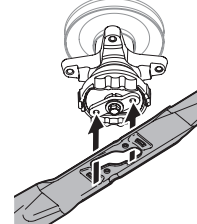

Figure 6
- Line up the hole in the center of the XTREME™ mulch blade over the S-shaped retainer. See Figure 6.